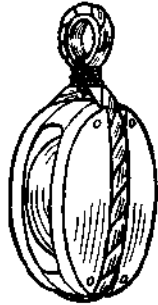

Fig. 110
2. Worm, parcel and serve the grommet and, to make a really first-class job of it, sew on tightly a leather jacket over the serving. 3. Place the block and thimble inside the strop and secure the whole by both ends, either vertically or horizontally, so that everything is held in position. 4. Put a tight Round Seizing on the two parts of the strop between the thimble (or spar) and the block (Fig. 110).